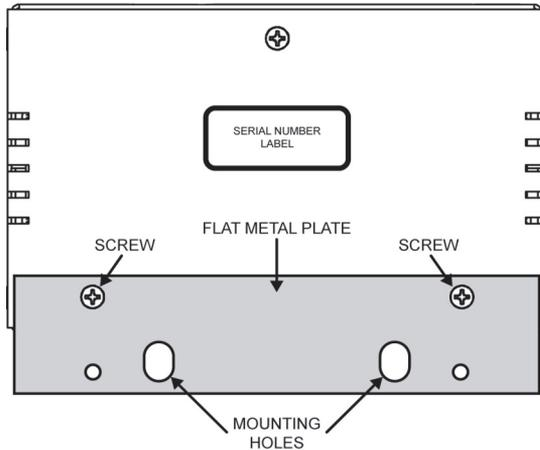

Figure 3 Flat Metal Plate Installation Option
1. Affix the flat metal plate to the bottom of the chassis using the chassis screws as shown in **Figure 3**.